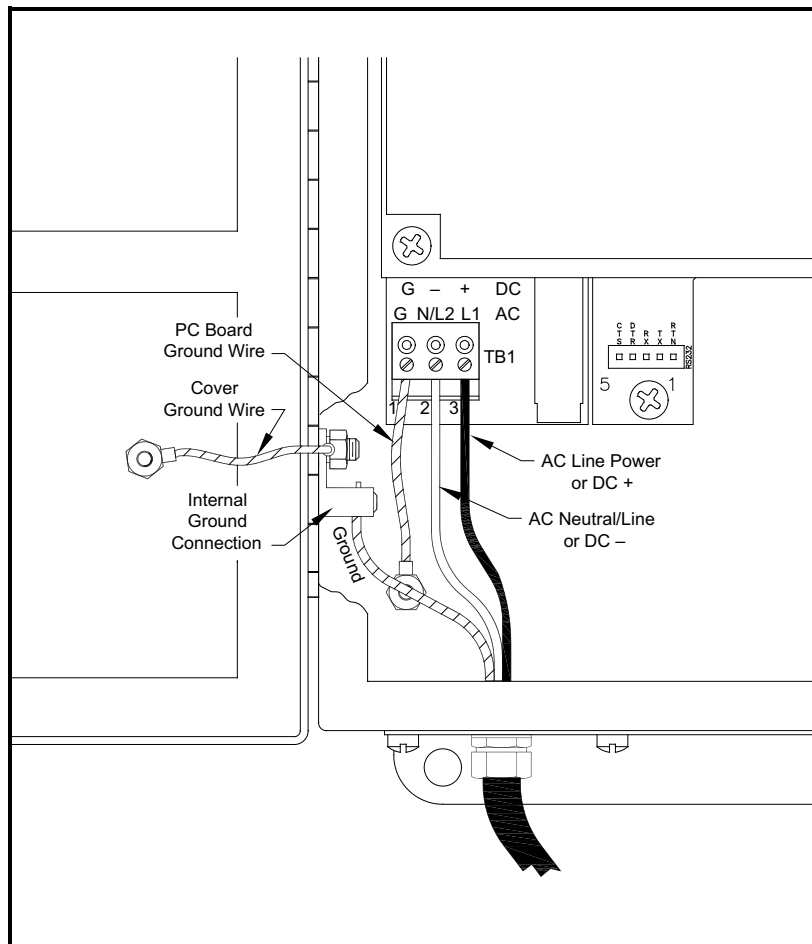

Figure 3: Wiring the Line Power
Refer to Figure 3 on page 7 or Figure 10 on page 18 to locate terminal block **TBI** and connect the line power as follows:
3. Connect the ground lead to the internal ground connection located on the side panel of the inclosure (see Figure 3 below).
4. Connect the neutral or line lead (or the negative – DC power lead) to **TB1-2** and the line power lead (or the positive + DC power lead) to TB1-3 as shown in Figure 3 below.